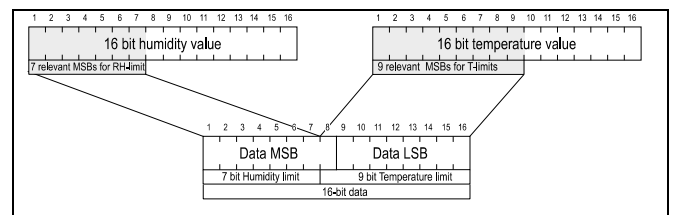

Figure 2 Relevant bits for the SHT3x limits
The sensor stores the limit information in a reduced data format. The standard data format of SHT3x-DIS has a width of 16 bits. For the limits only the most significant bits (MSB) are used to determine whether an alert has been met (7 bits for humidity and 9 bits for temperature), see Figure 2.
The reduced data format is shown in **Figure 2**.
- Combine the reduced values (step 3 and 4) according to **Figure 2**